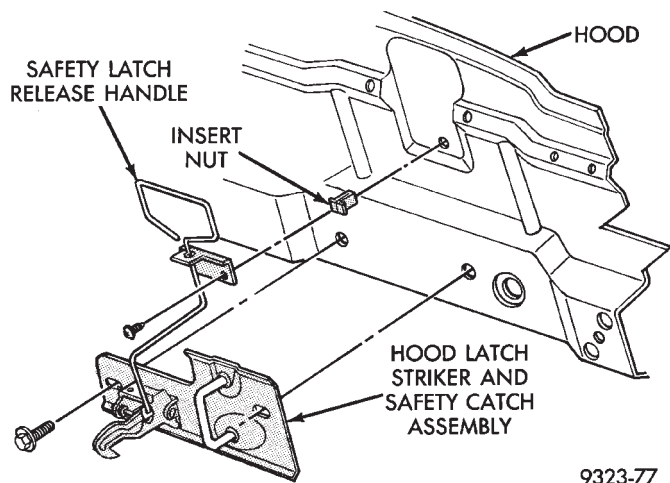

Fig. 2 Hood Safety Catch
- (1) Release hood latch and open hood.
- (2) Remove screw holding safety catch release handle to inside of hood.
- (3) Remove bolts holding hood latch striker and safety catch assembly to inside of hood (Fig. 2).
- (4) Separate safety catch from vehicle.